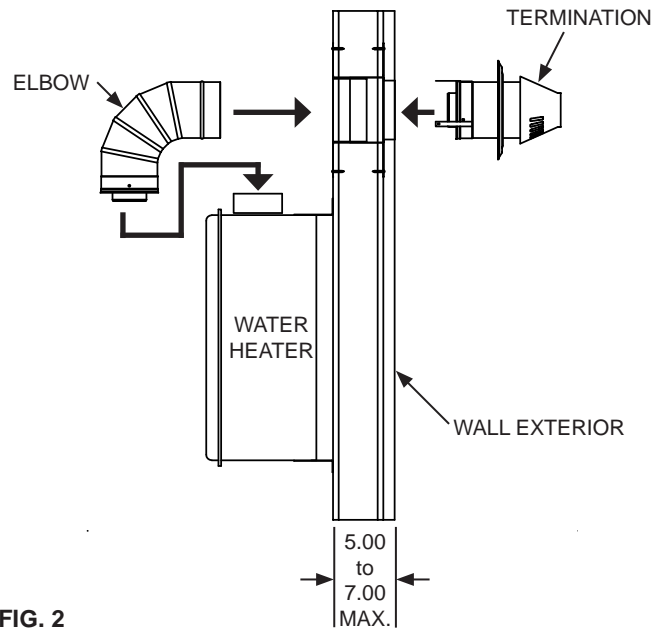
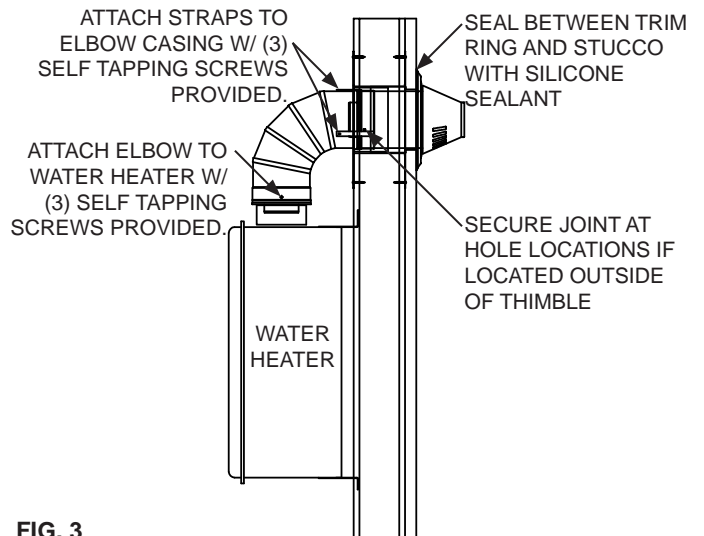

FIG. 2
FIG. 3
Attach the 90 degree elbow to the appliance using (3) each #8 x 1/2" long sheet metal screws provided as shown in **FIG. 2** and **FIG. 3**. Slide the termination through the thimble from the exterior side of the wall into the elbow joint.
Apply a bead of silicone between the stucco and trim ring that floats on the termination and attach the trim ring to the exterior wall surface (See **FIG. 3**).